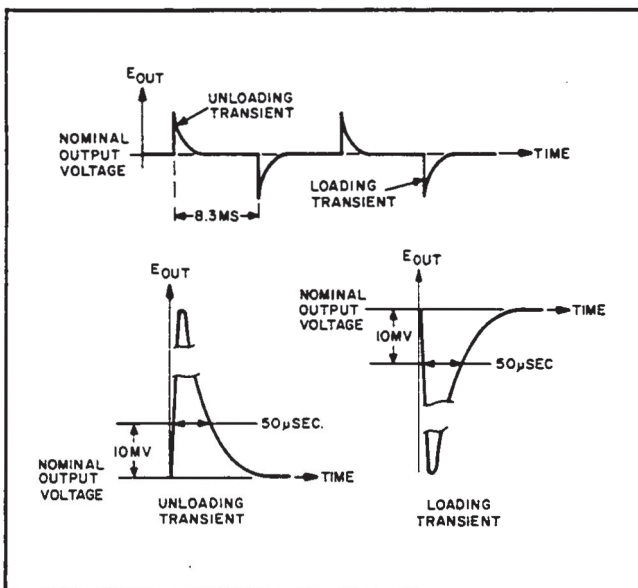

Figure 5-6. Transient Recovery Time, Waveforms
- k. Starting from the major graticule division representative of time zero, count to the right  $50\mu\text{sec}$  and vertically  $10\text{mV}$ . Recovery should be within these tolerances as illustrated in Figure 5-6.